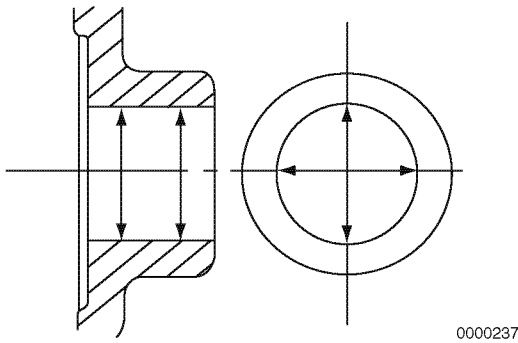

Figure 6-115
6. Measure the diameter of the wrist pin bore on both sides of the piston (**Figure 6-115**). *See Piston on page 6-14 for specifications.* Record the measurements.